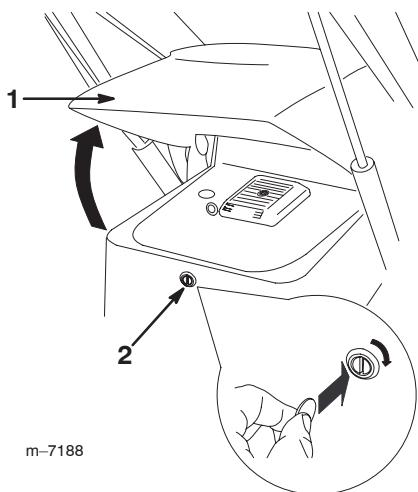

Figure 16
1. Using a coin or screwdriver, turn the hood latch clockwise (Fig. 16).
2. Swing the hood up (Fig. 16).